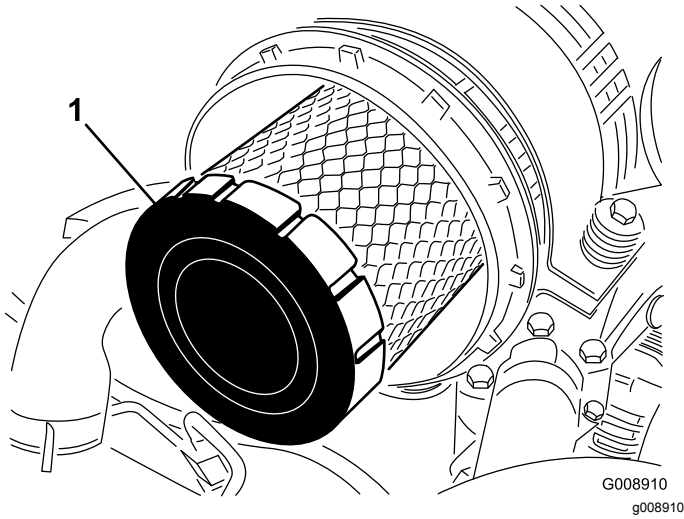

Figure 62
4. Remove and replace the primary filter (Figure 62).